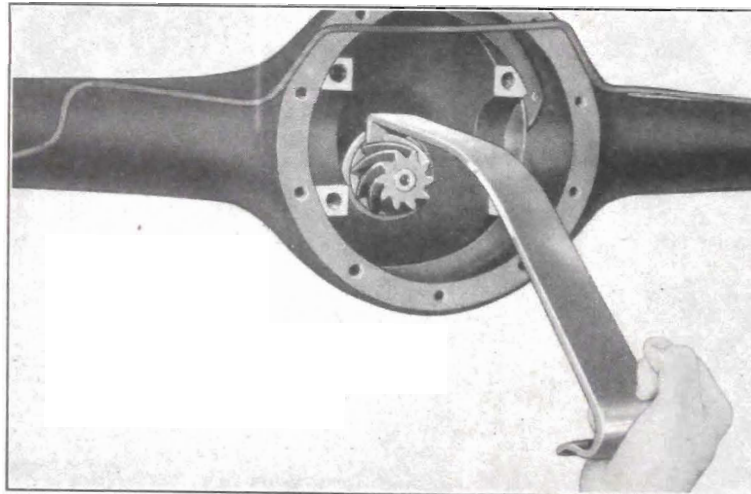

Fig. 4-24. Pinion Pry-Out Tool, J-1590
7. **Remove pinion and propeller shaft assembly.** Use jaw type puller J-1020-B or pry out with tool J-1590. See Fig. 4-24. The J-1590 puller is meant for shops which